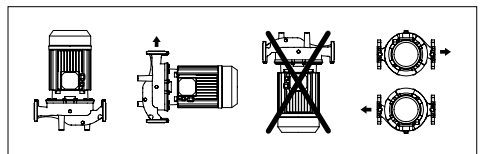

FIG 2: Installation of motor $\leq 7.5\text{kW}$ 2 pole and $\leq 1.1\text{kW}$ 4 pole
- The pumps can be installed on delivery or return pipes and in horizontal and vertical position, provided the motor is never placed below the pump to avoid water leakage into motor or bearings.(FIG 2) (Note that vertical installation is possible for $\leq 7.5\text{kW}$ 2 Pole and $\leq 1.1\text{kW}$ 4 pole units)